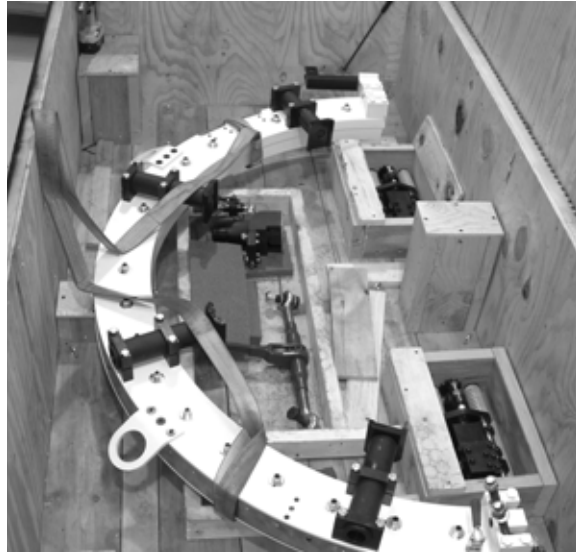

Figure 4-5. Put the first half of the ring into the crate as shown. The ends of the ring should rest on the support blocks in the corners.
5. Attach a crane to one half of the ring using lifting straps. Lower the ring half into the crate in the position shown in Figure 4-5.